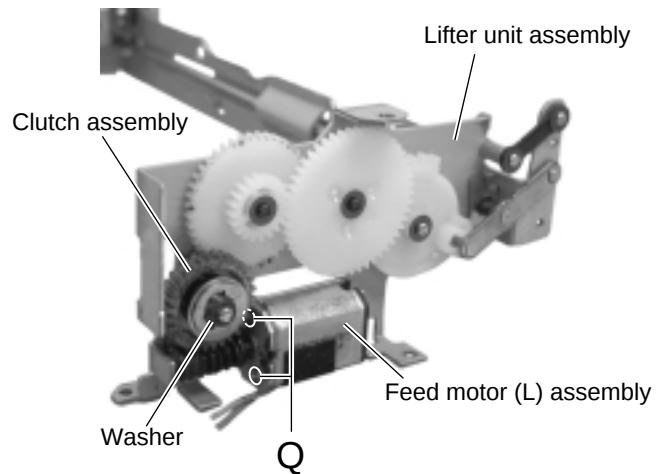

Fig.14
■ Removing the feed motor (L) (See Fig.14)
2. Remove the two screws **Q** attaching the feed motor (L).